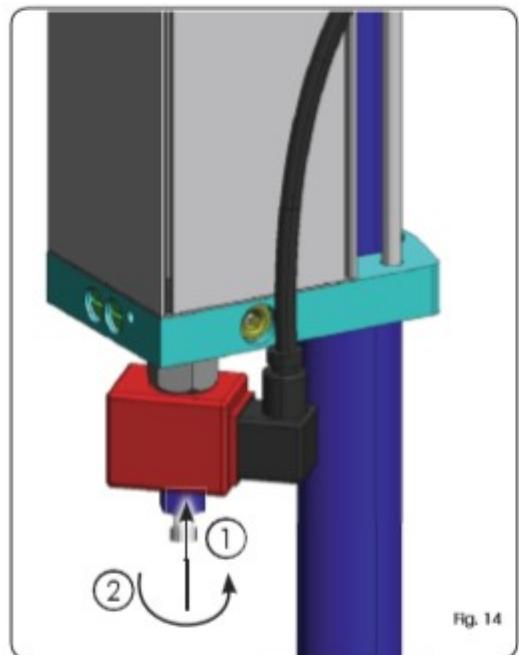

Fig. 14
2. press completely the pin of sight on the solenoid valve (fig. 14 ref. ①)
3. turn the pin to end of stroke as shown in figure (fig. 14 ref. ②).